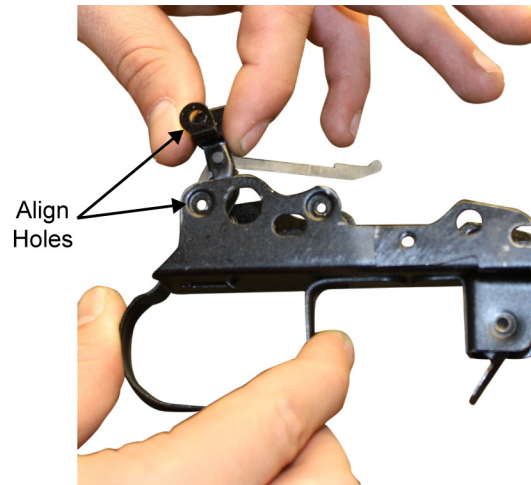

Figure 9. Install the Trigger Assembly.
1. Install the trigger assembly in the trigger housing, aligning the holes. Refer to Figure 9.